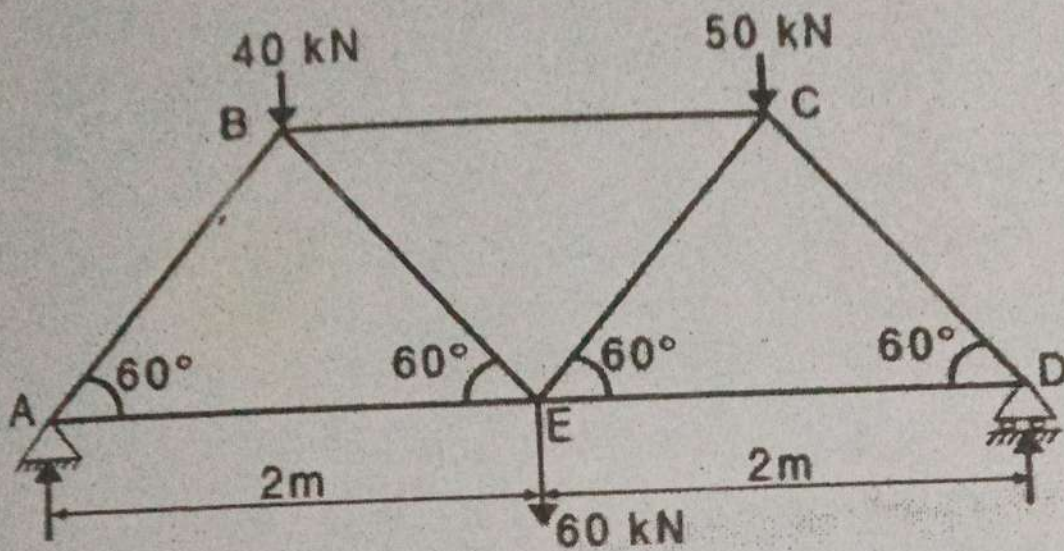

Fig. 7
2. Determine the forces in all the members of the truss shown in Fig. 7 and indicate the magnitude and nature of forces on the diagram of the truss. All inclined members are at 60° to horizontal and length of each member is 2 m.